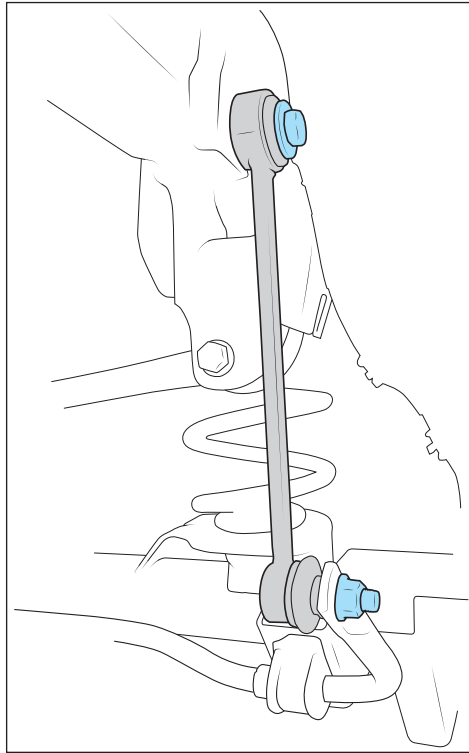

Figure 9
12. Install new AEV endlinks in factory orientation using supplied hardware (fig. 9). Reattach ABS lines (step 5), and install wheels using factory hardware.